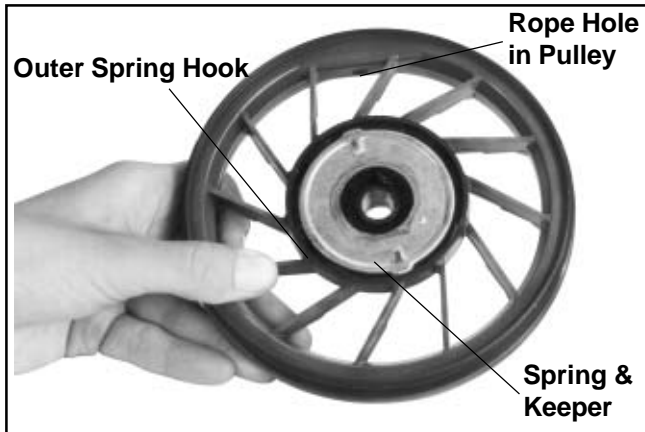

Figure 7-7. Position of Spring and Keeper in Pulley.
8. Note the position of the spring and keeper assembly in the pulley. See Figure 7-7.
1. Make sure the spring is well lubricated with grease. Place the spring and keeper assembly inside the pulley (with spring towards pulley). See Figure 7-7.